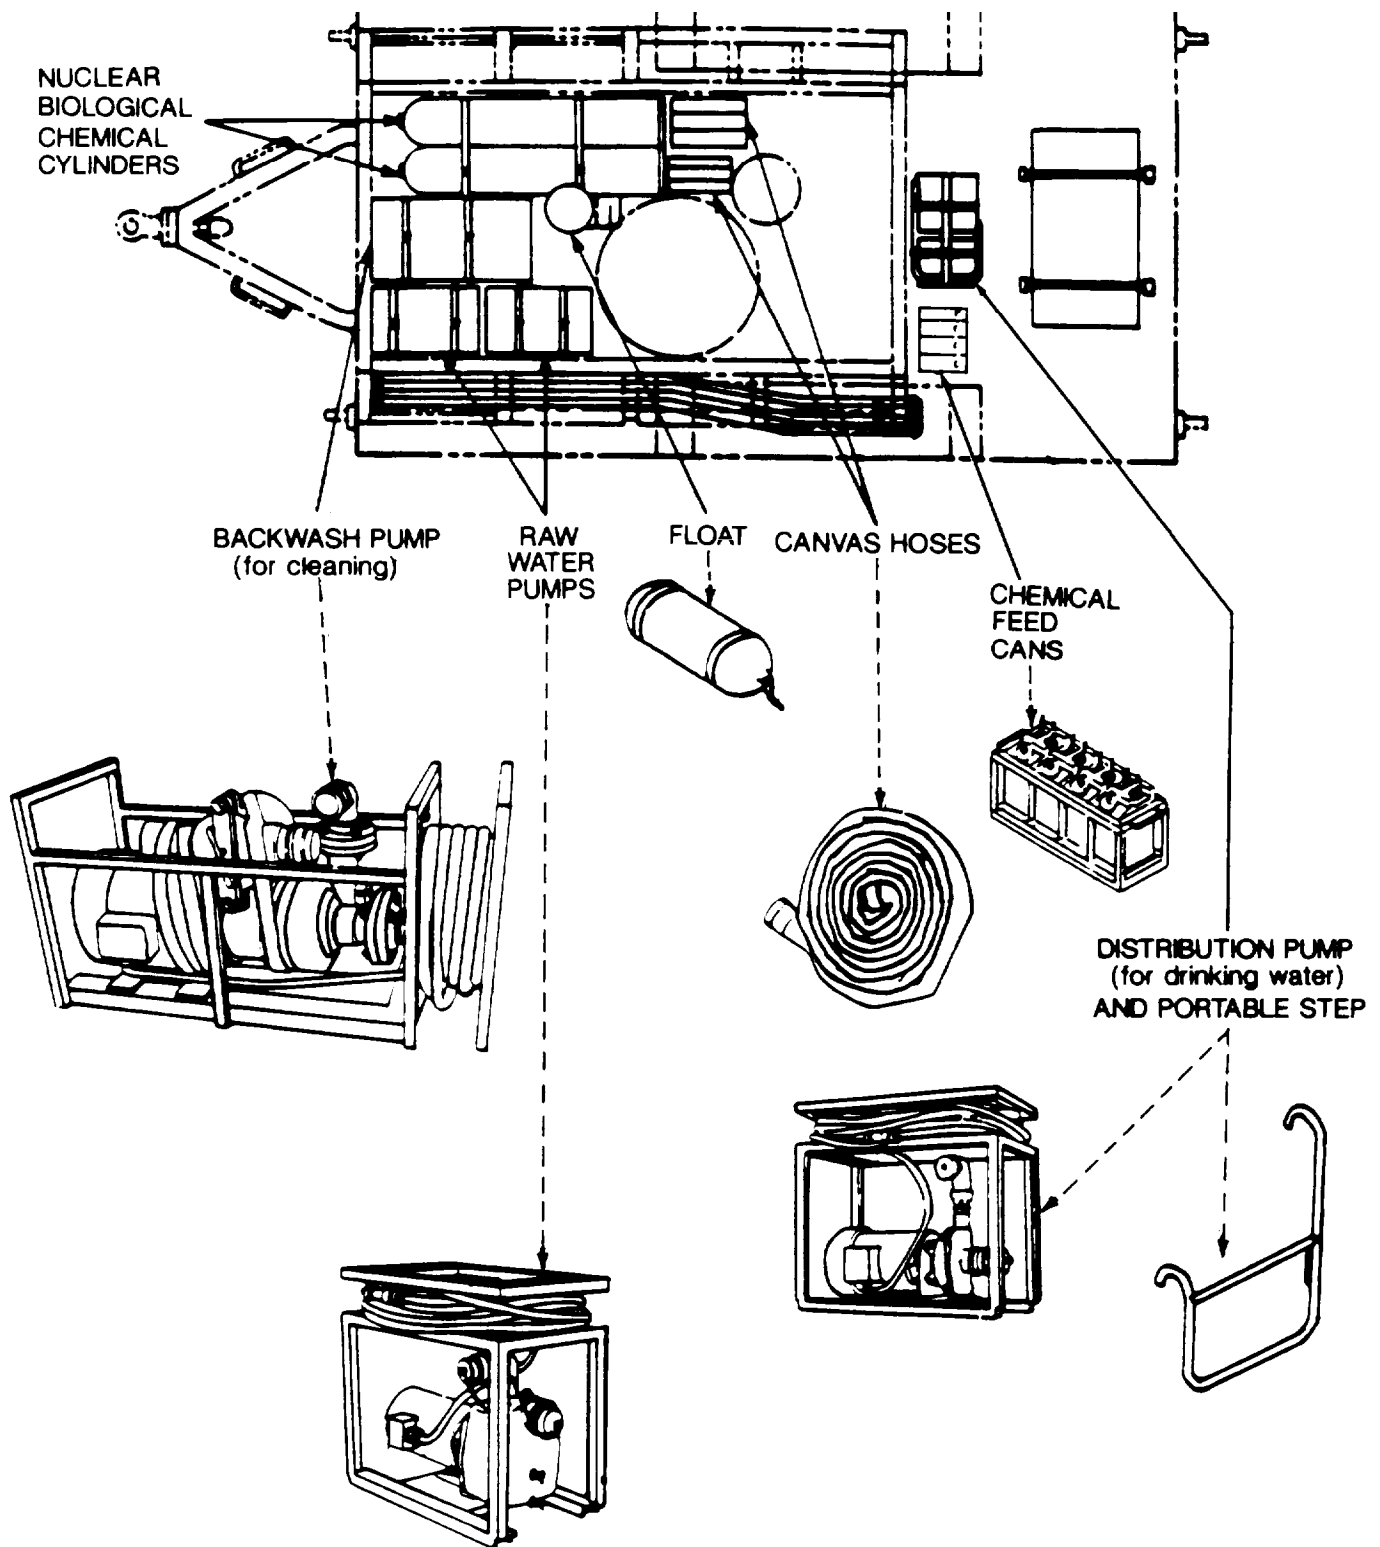
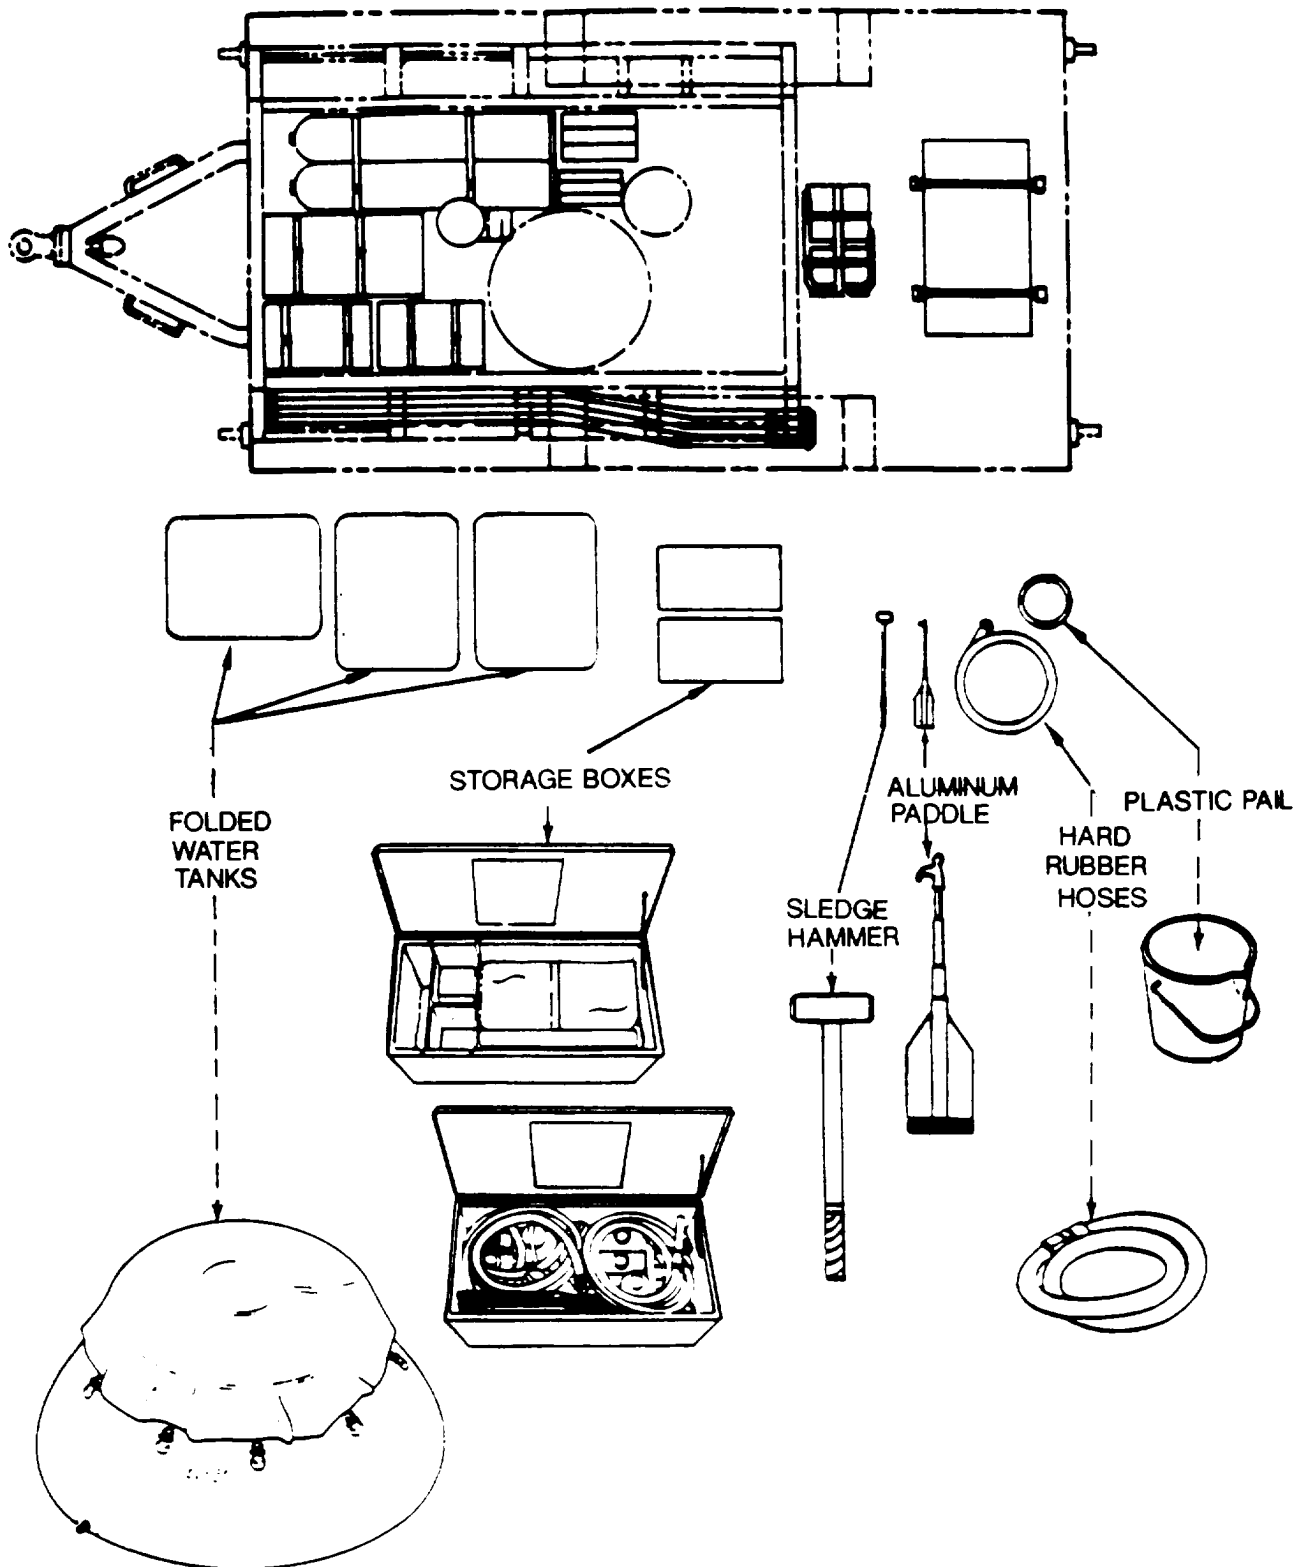

Figure 1-5. Top View of ROWPU With Pumps (Army)
Figure 1-7. Top View of ROWPU With Operating Equipment Removed (Army)
b. In the second layer you will find two raw water pumps and a backwash pump (fig. 1-5 and 1-6). The pumps are covered with canvas and strapped down. A distribution pump is located at the rear of the unit, next to the generator (Army ROWPU only), not shown here. Army ROWPU includes a portable step strapped down with distribution pump. On the right side are 1-1/2 inch and 2-inch diameter discharge (canvas) hoses, rolled-up. A raw water float is in the center of the ROWPU next to two nuclear, biological, chemical (NBC) cylinders. Figs. 1-7 and 1-8 show ROWPU with operating equipment removed.